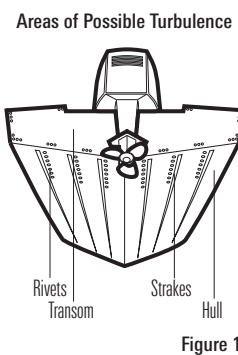

Figure 1
- The best way to locate turbulence-free water is to view the transom while the boat is moving. This method is recommended if maximum high-speed operation (up to 65 mph) is a high priority. If this is not possible, select a location on the transom where the hull forward of this location is smooth, flat, and free of protrusions or ribs (Figure 1).